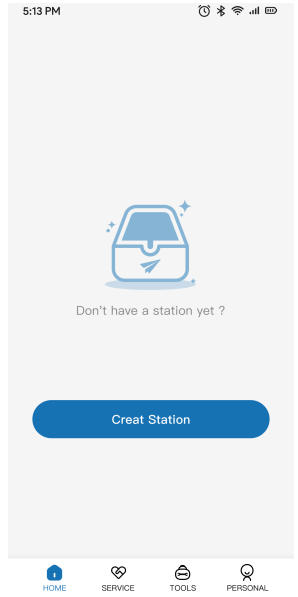

Fig. 5
- Tap "Create station" on the page, as shown in Fig.5.